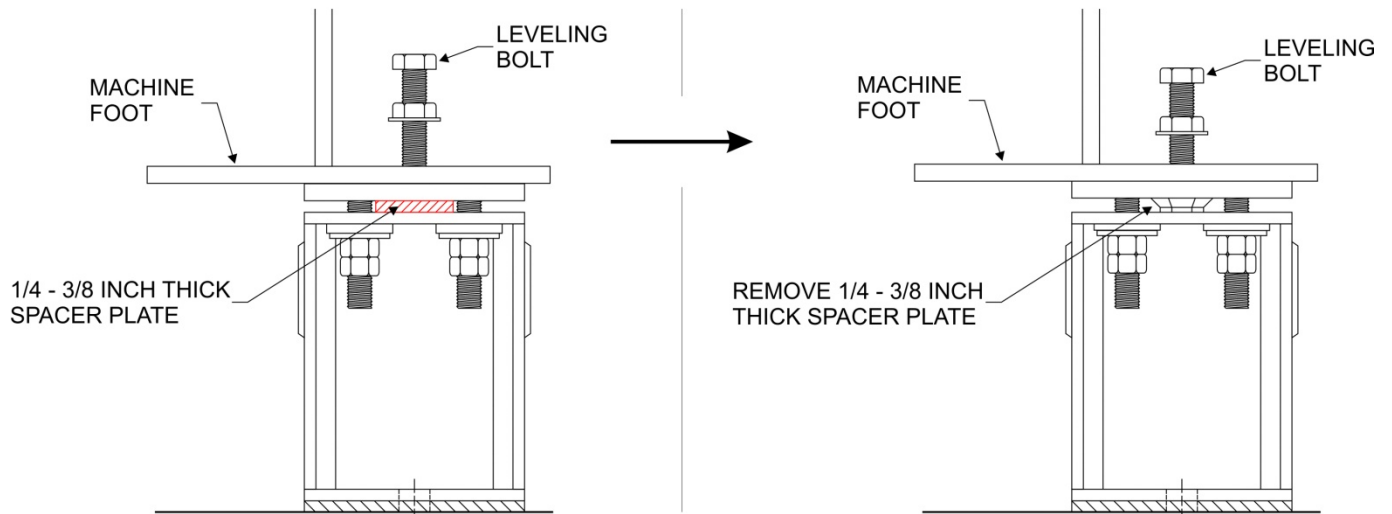

Figure 3
9. Continue adjusting the isolator upward until it lifts the machine high enough to remove the spacer plates. A jack may be required. (See Figure 3)